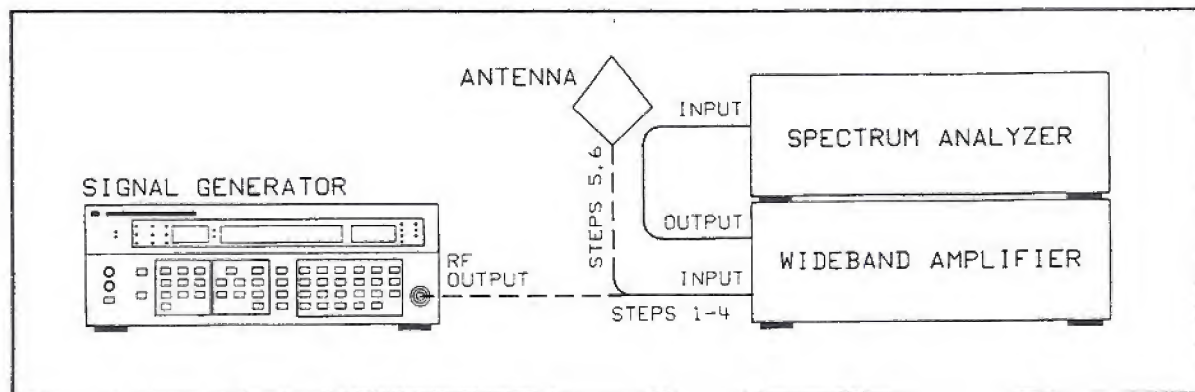

Figure 4-17. Output Leakage Test Setup
1. Connect equipment as shown in Figure 4-17, for the signal path shown as 1-4 below.
5. Connect the one-inch loop antenna to the analyzer through the amplifier as shown in Figure 4-17, for the signal path shown as 5,6. Hold the end of the loop antenna cylinder in contact with the front surfaces of the Signal Generator. All signals and noise should be below the reference graticule line (i.e., below -107 dBm).